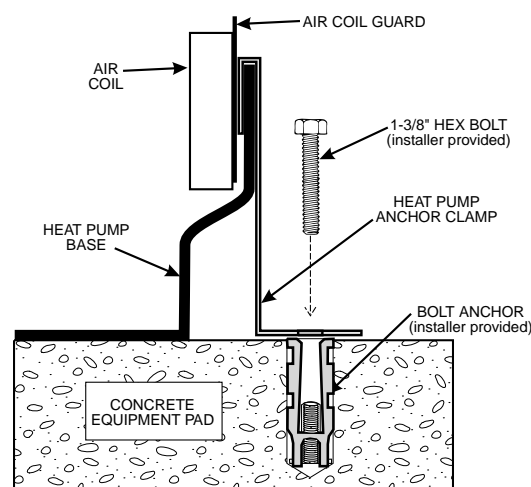

Figure 5.
4. Fit the hook of each clamp over the lip on the base panel of the heat pump. The hook should fit between the lip of the base panel and the evaporator coil guard, see Figure 5.
8. Position the anchor clamps so that the holes in the clamps are over the bolt anchors. Be sure that the clamp hooks are over the lip of the heat pump base, see Figure 5.